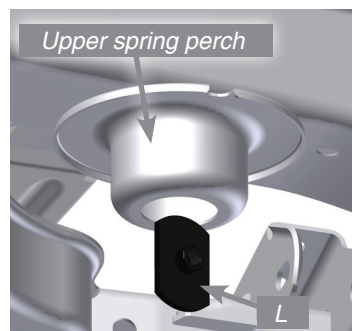
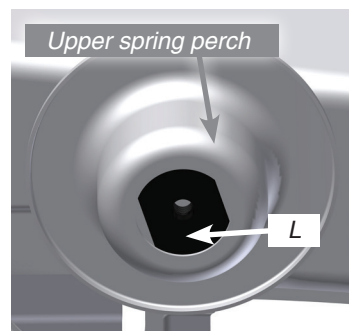

*fig. 10*
*fig. 11*
3. Place the roll plate (F) over the air spring (Fig. 10). Attach the upper mount to the air spring (Fig. 11) using two short bolts (I) and two lock washers (J). Torque to 27Nm (20 lb.-ft.)